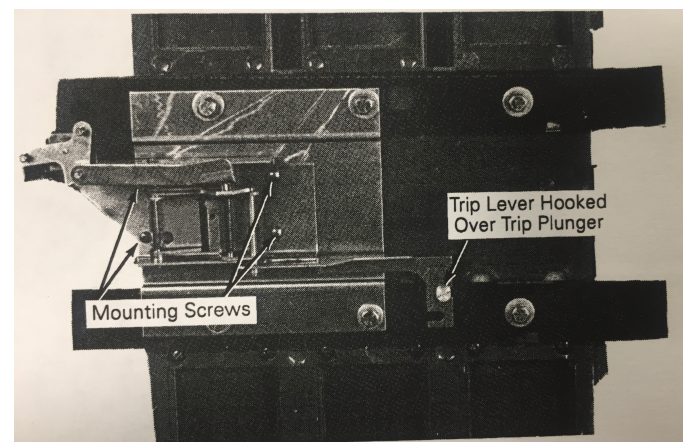

Figure 6. Interlock mechanism attached to the breaker.
5. Install the interlock mechanism, as shown in Figure 6, hooking the trip lever over the slot in the trip plunger. The hole in the underside of the mechanism must line up with the interlock plunger. Attach with four #10-32 Phillips-head screws tightened to 15 in-lb.